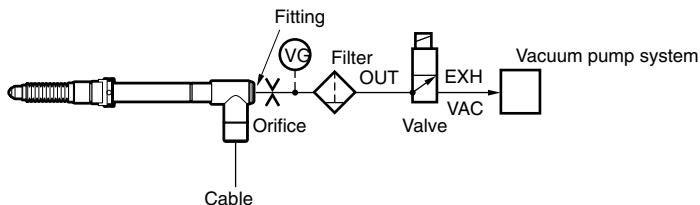
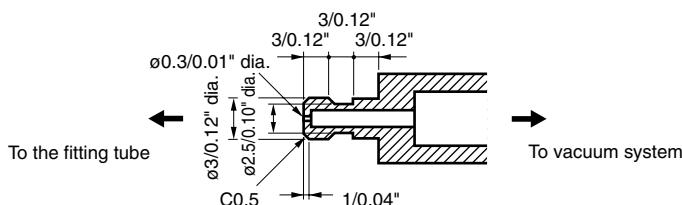

Fig.1 Air-pass system
Fig.2 Dimensions of Orifice
- In operating the probe DG805FLM/DG805FLE, DG810FLM/DG810FLE with a vacuum pump, use such an air-pass system as shown in Fig. 1. The optimum vacuum rate is 40 to 66.7 kPa. Further, put such an orifice as shown in Fig. 2 on a tube from the air lifter connector to control the air suction and discharge speed. The measuring feeler is lifted at the air discharge to the vacuum pump.